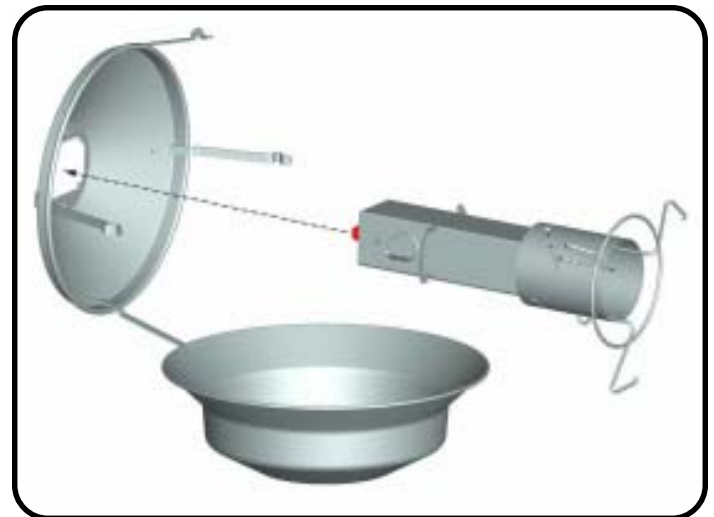

Figure 5
5. Orient the feed pan and pan shield as shown in Figure 5 and insert the drop tube assembly and feed level assembly into the square hole.